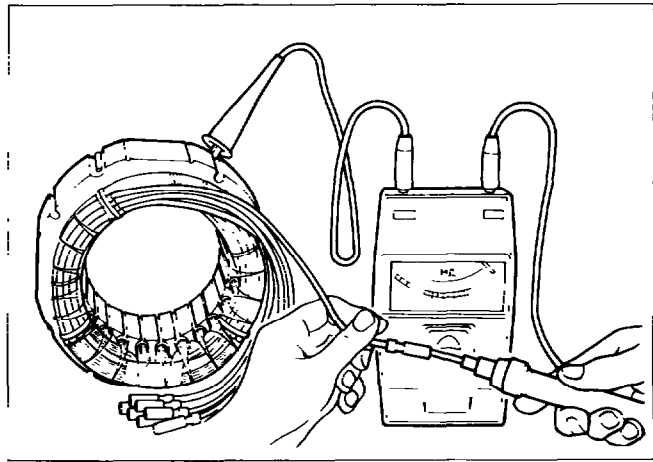

Fig. 11-3
- Check the insulation resistance between stator core and each stator lead using a Dr. Robin generator tester in megger tester mode or a megger tester. (Fig. 11-3)